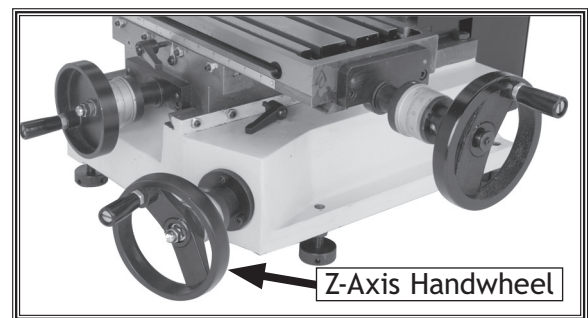

Figure 13. Z-axis control.
2. Turn the Z-axis handwheel shown in **Figure 13** to raise or lower the headstock, then lock the headstock slide lock lever.